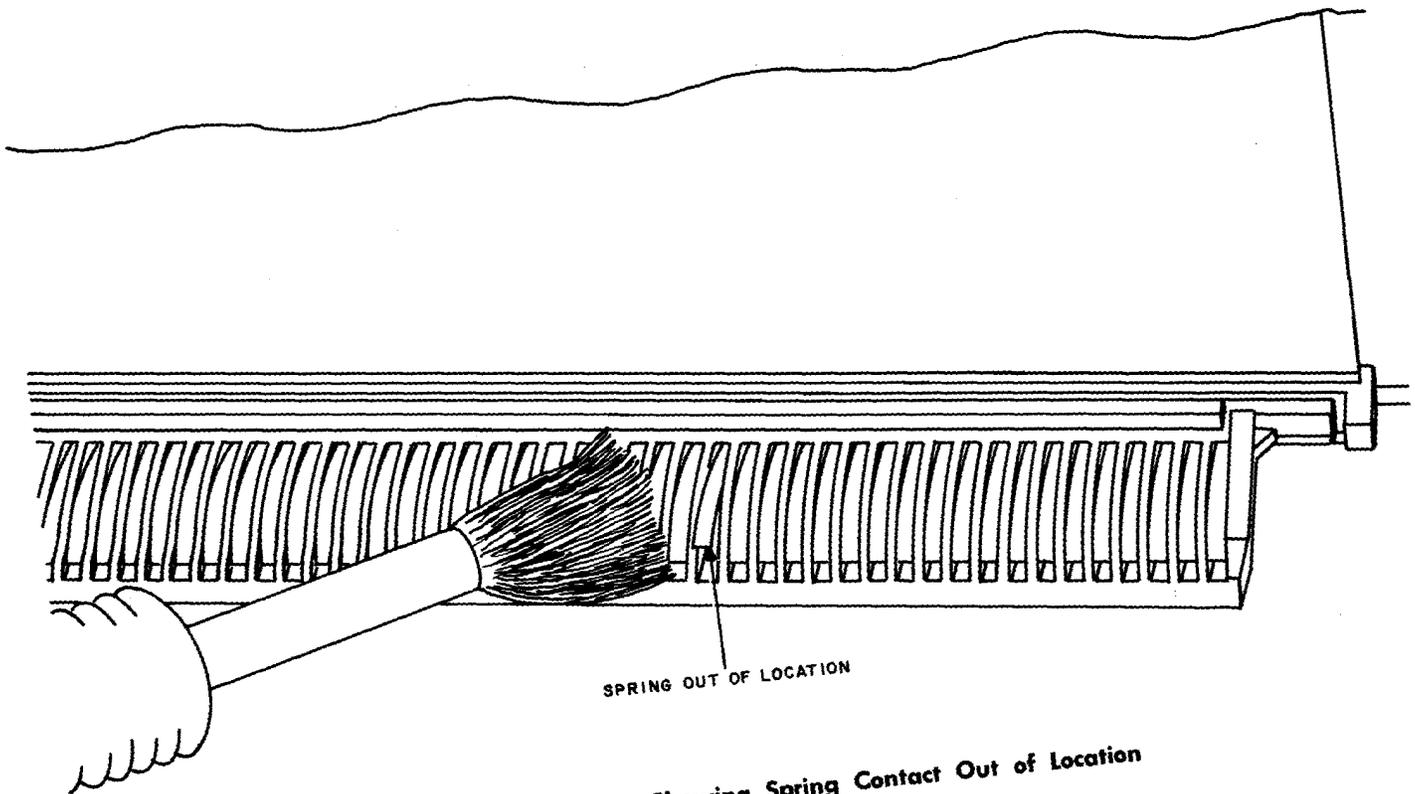

Fig. 1—946 Connector Showing Spring Contact Out of Location
**Note:** Contact springs may occasionally pop out of their slots. If this should happen, use the Cobra brush to push the spring back into its slot (Fig. 1). Only a small amount of force is required. **Do not use fingers.**